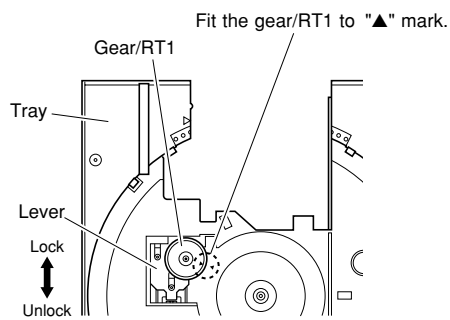

Fig. B-1
- 1) Slide the lever so that the gear/RT1 becomes free. (Fig. B-1)
- 2) With the "▲" mark on the gear/RT1 aligned with the same mark on the tray, lock it with the lever. (Fig. B-1)